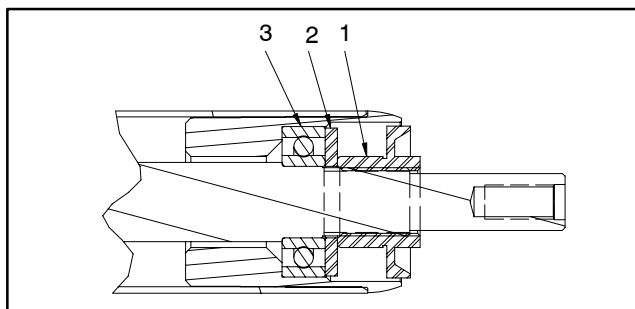

Figure 35
2. Position a new bearing, black assembly washer (see Special Tools) and original lock nut onto each end of the roller shaft (Fig. 35).